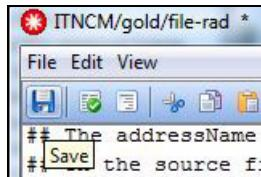

Figure 4-9 Saving the RAD
- When finished editing, save the RAD by clicking **File → Save**, as shown in Figure 4-9.